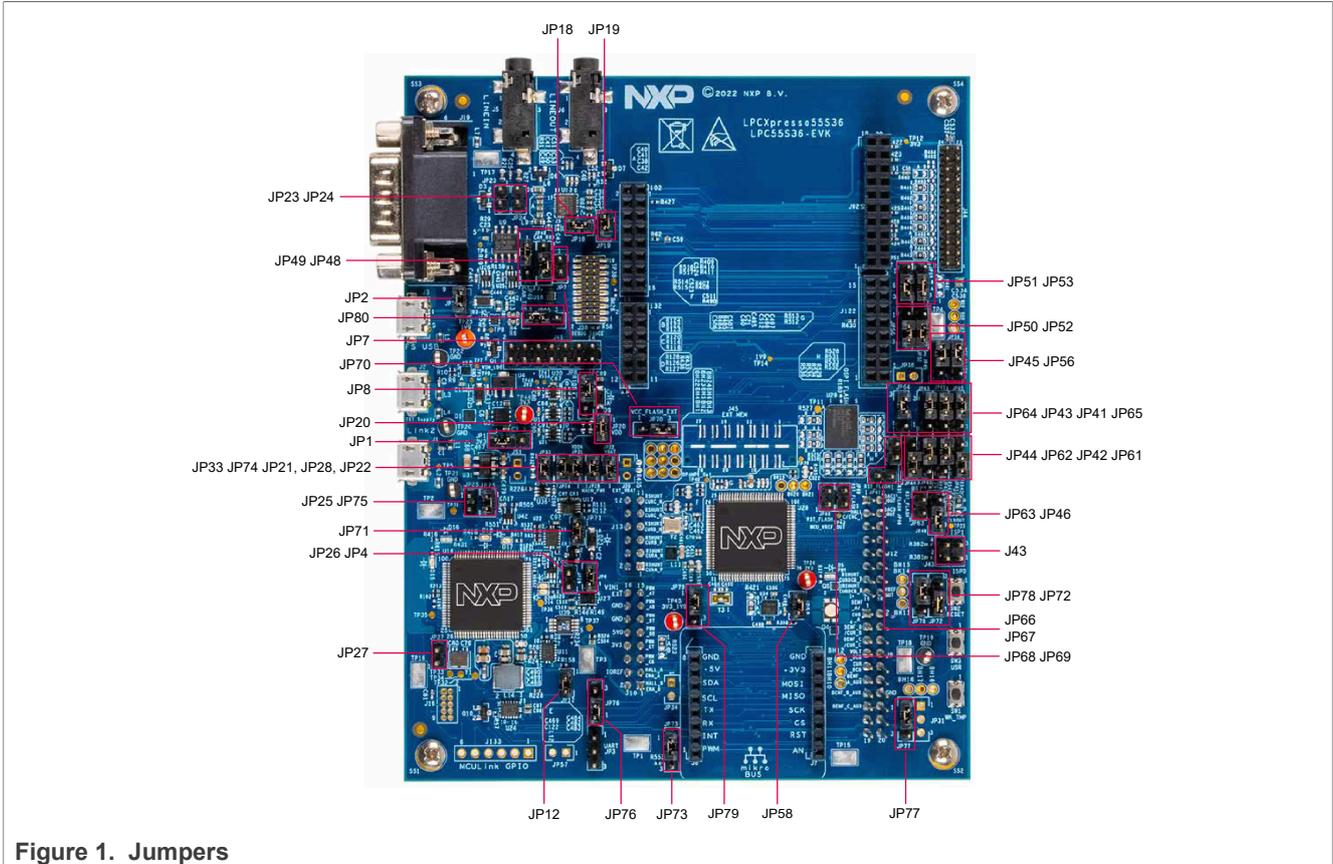

Figure 1. Jumpers
- d. Connect current meter to JP28 (`IMCU_MAIN`), JP22 (`IMCU_VBAT`), JP21 (`IMCU_VDDA`), JP20 (`IMCU_VDD`) as shown in Figure 1.